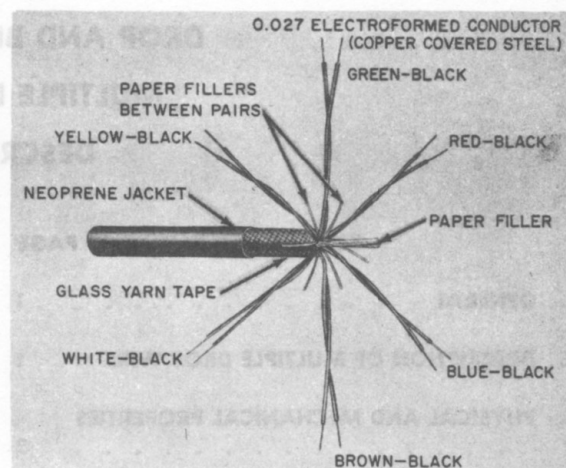

Fig. 3—C Multiple Drop Wire (Early Design) (MD)
- 2.06 Makeup of this wire is shown in Fig. 3.